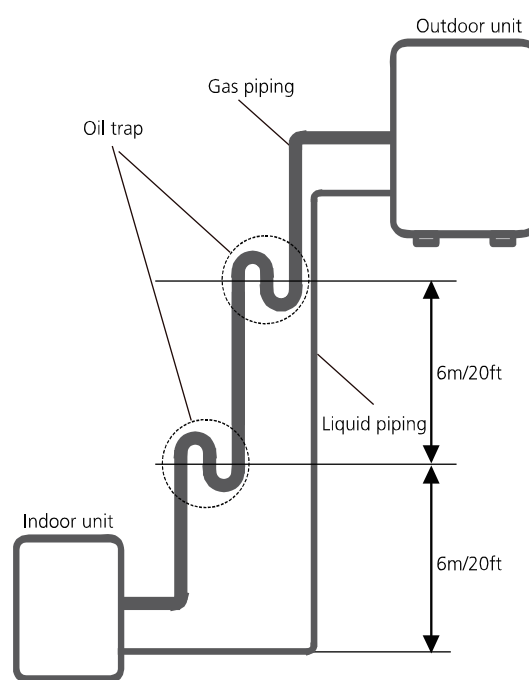

Fig. 7.2
-It is recommended that vertical suction risers not be upsized. Proper oil return to the compressor should be maintained with suction gas velocity. If velocities drop below 7.62m/s (1500fpm (feet per minute)), oil return will be decreased. An oil trap should be installed every 6m (20ft) of vertical suction line riser. (See Fig. 7.2)
1. Make sure that the pipe is cut at a perfect 90° angle. Refer to Fig. 7.2 for examples of bad cuts.